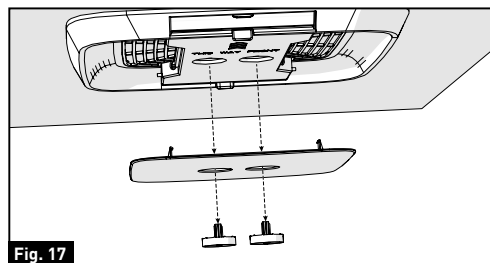

Fig. 17
1. Pull the two control knobs to remove from the air conditioning switch. Remove the decoration plate from the air conditioning system by pushing the side tabs to release. (Fig. 17)